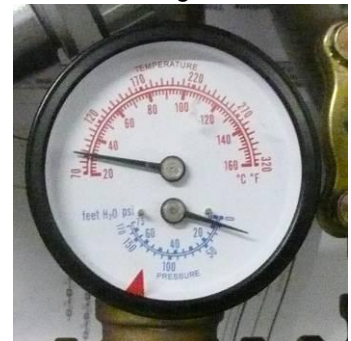

Figure 4
9. Verify the pressure and temperature of the water via the pressure/temperature gauge. See Figure 4 for a picture of the gauge. Self Cleaning pressure should be between 30 and 50 PSI operating pressure, and Cold Mist operating pressure should be between 10 and 20 PSI.